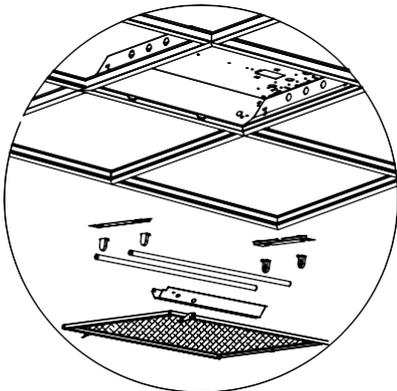

Figure 2
2. Install end brackets to each end of the fixture by gently lifting existing fixture and placing end brackets between the fixture and T-grid. If desired, secure the end brackets to the fixture using the provided #8x1/2" self-drilling screws. (Fig. 2)